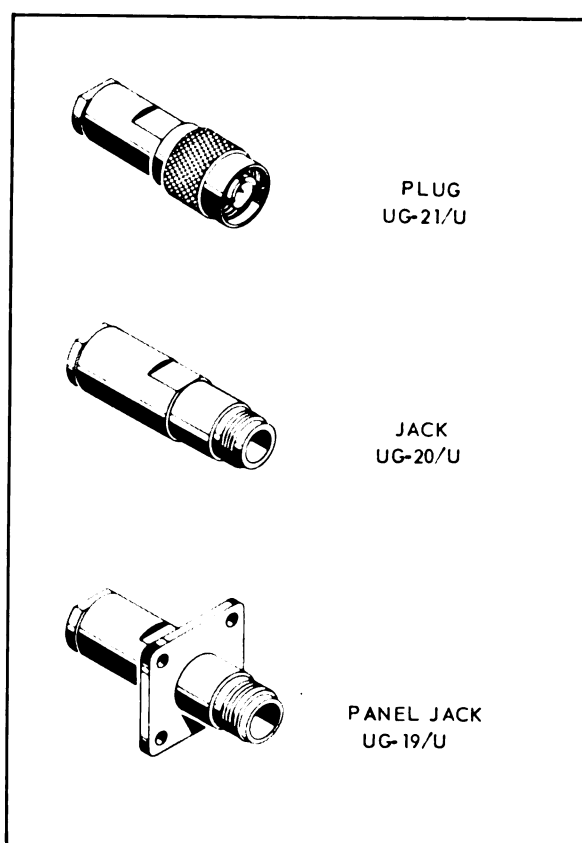

Figure 4-3. Typical N Connectors
c. N series. See figure 4-3. A general purpose, threaded coupling connector used with medium size coaxial cables.